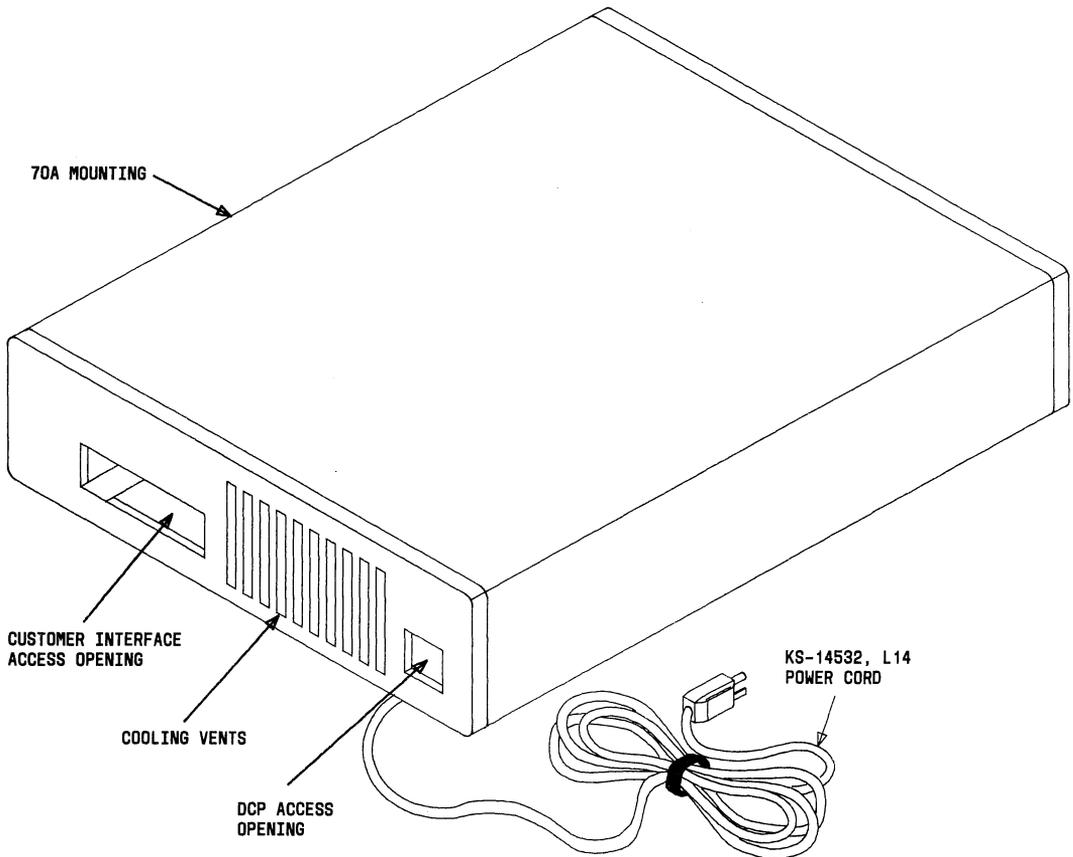

Fig. 5—Rear View of 70A Stand-Alone Mounting
2.10 The 70A stand-alone mounting is equipped with power cord KS-14532, L14; covers on front and rear, cooling vents and two openings, one for EIA customer connector access and the other for DCP (modular jack) connector access (Fig. 5).